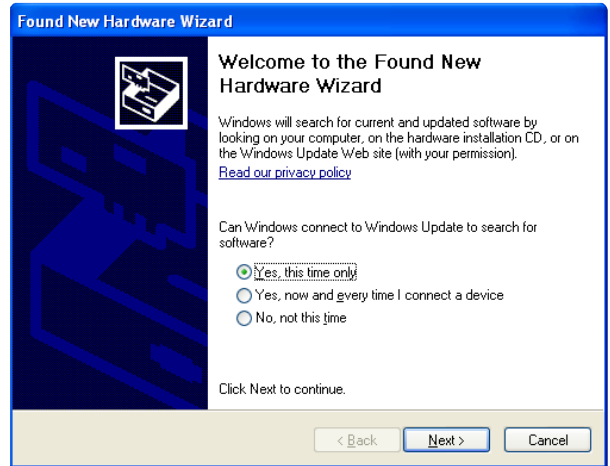

Figure 13. Windows XP USB Adapter Board Driver Installation, Found New Hardware Wizard
3. Connect your SDP board (black) or USB adapter board (green) by USB. If you are using an SDP board, the drivers install automatically, and you are ready to run the software. If you are using a USB adapter board on Windows XP, follow the steps in the Windows XP Driver Installation Guide section (see Figure 13 to Figure 16). On Windows Vista or Windows 7, the drivers install automatically.